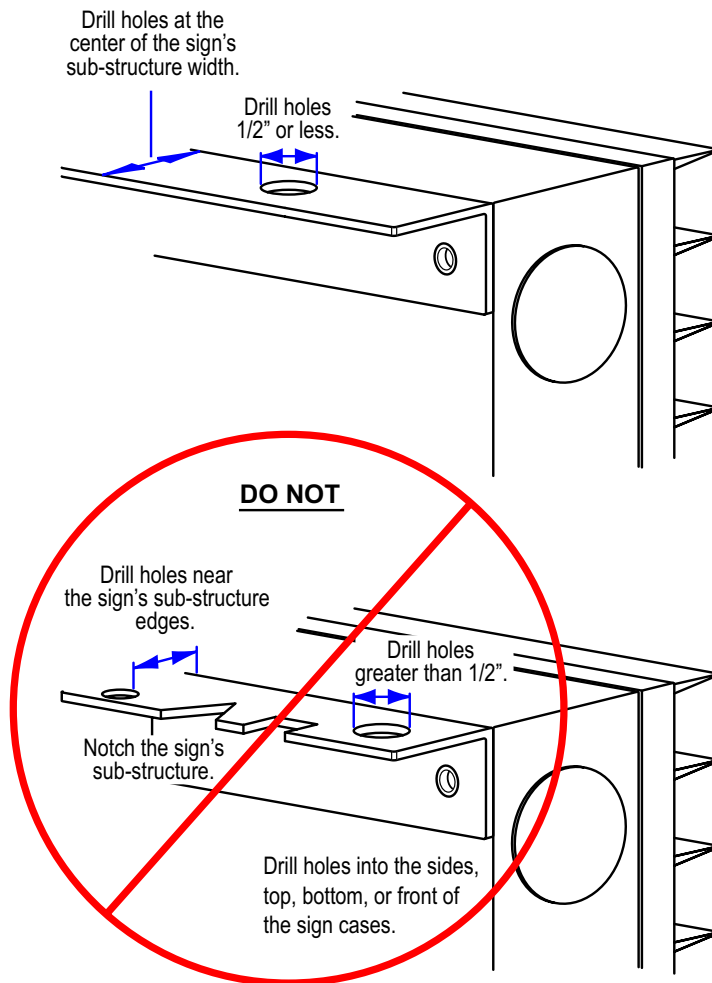

Figure 24. Drilling guidelines
- **DO NOT** modify the sign or sign’s sub-structure for ventilation purposes (see Figure 24 on page 27). The super-structure design **MUST** incorporate adequate ventilation.